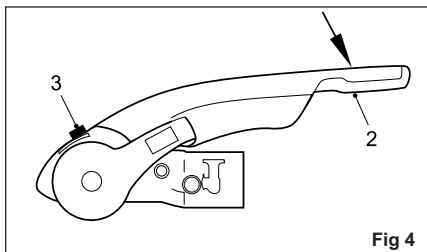

Fig 4
WARNING: The coupling is correctly engaged when the green edge of the safety indicator button is visible (Fig. 4/ Item 3).
- To operate the Stabiliser (once coupled to the towball), simple press the stabiliser lever down as far as it will go (Fig. 4/Item 2).